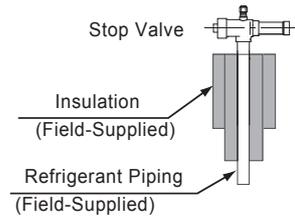

Fig. 6.2 Insulation on Pipes
- Insulate the refrigerant pipes as shown in Fig.6.2.